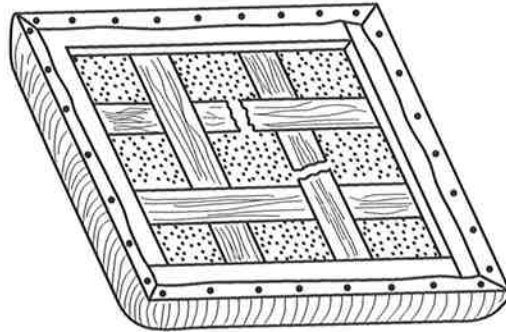

Figure 9. Defective chair seat
- (c) Figure 9 shows a defective chair seat that needs to have TWO of the webbing strips replaced.